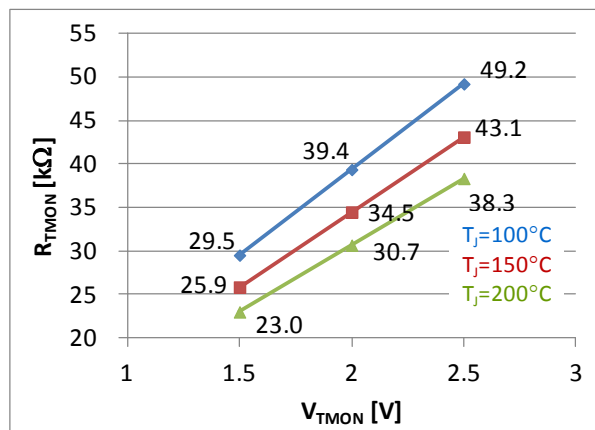

Figure 36.  $V_{TMON}$  vs.  $R_{TMON}$
For example, if a 2 V  $V_{TMON}$  is required when the driver  $T_J$  reaches 150°C, the calculated  $R_{TMON}$  value is 34.5 kΩ. Figure 36 shows the relationship among  $V_{TMON}$ ,  $R_{TMON}$  and driver  $T_J$  based on Equation (1).